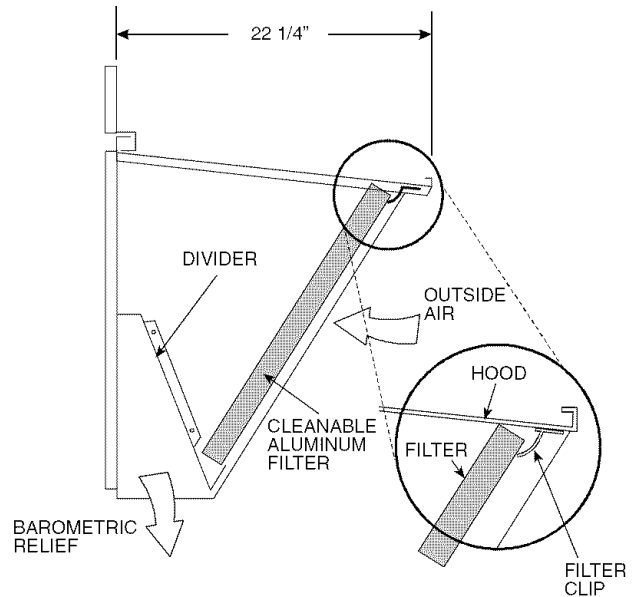

Fig. 25 — Filter Installation
7. Open the filter clips which are located underneath the hood top. Insert the aluminum filter into the bottom filter rack (hood divider). Push the filter into position past the open filter clips. Close the filter clips to lock the filter into place. See Fig. 25.